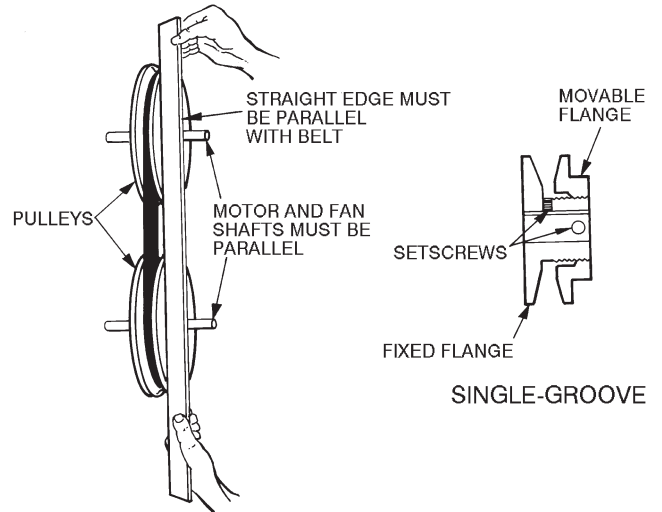

Fig. 21 — Fan Pulley Adjustments
3. Loosen movable pulley flange setscrew (Fig. 21).
Pulley Alignment — Shut off unit power supply. Lock out power supply and tag disconnect locations. Loosen fan motor pulley setscrews and slide fan pulley along fan shaft. Make angular alignment by loosening motor from mounting bracket. Check alignment with a straightedge (see Fig. 21).